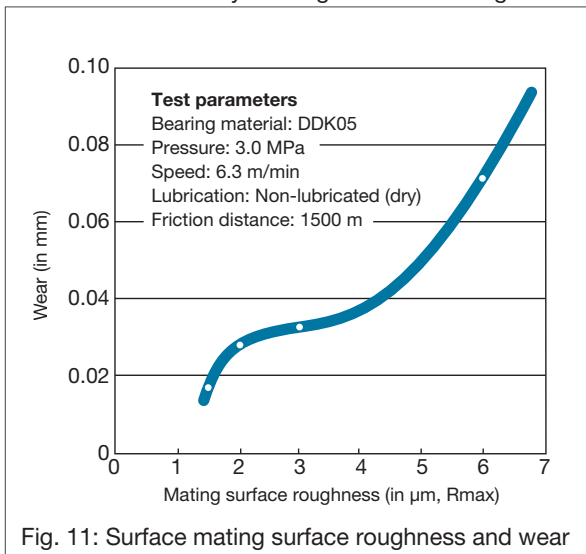

Fig. 11: Surface mating surface roughness and wear
- ① We recommend a normal axle surface roughness of 0.8-1.6s, but a roughness of up to 3.2s is acceptable. Typical data showing the relationship between surface mating surface roughness and wear for DDK05 dry bearings is shown in Fig. 11.